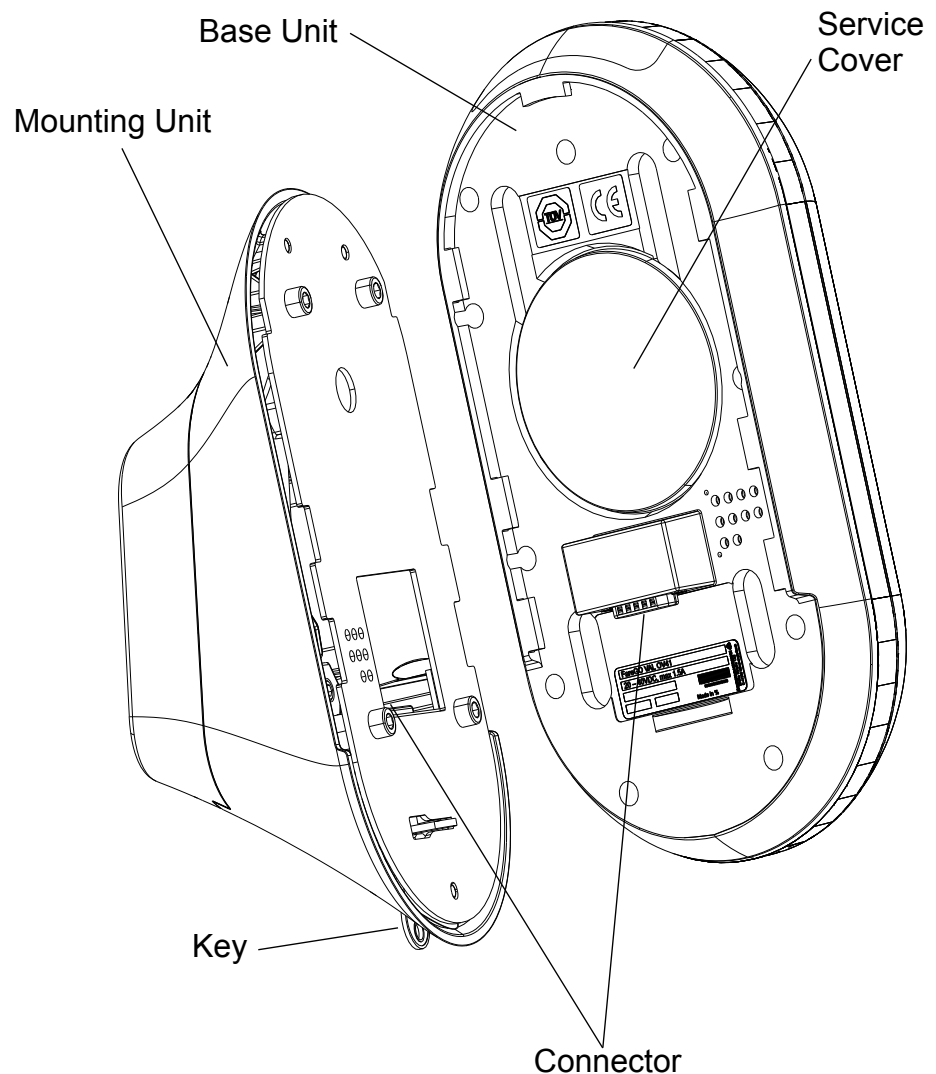

Figure 4-16 Module Removal - Base Unit
The drawing in **Figure 4-16** illustrates how to unlock the OV|41 Base Unit and remove it for field replacement.
- STEP 7:** Lock the base unit by turning the key showing in **Figure 4-16**.